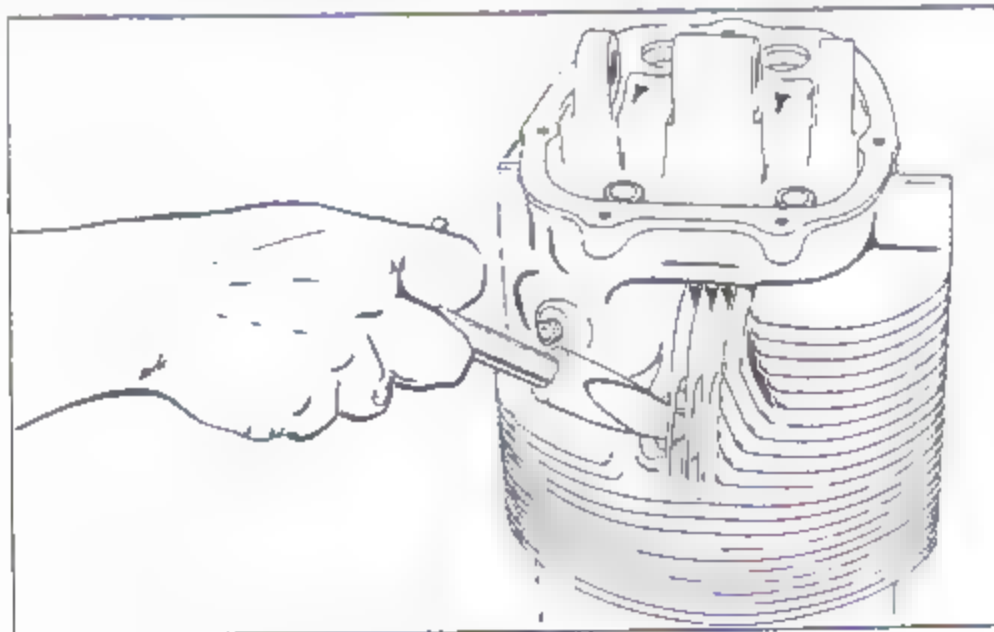

Figure 5-4. Removing Spark Plug Helicoil
b. Use a Helicoil removing tool to unscrew the original Helicoil. Tap the square, tapered end of the tool into the Helicoil so that it will get a good "bite." Unscrew the Helicoil by turning to the left. (See figure 5-4.)